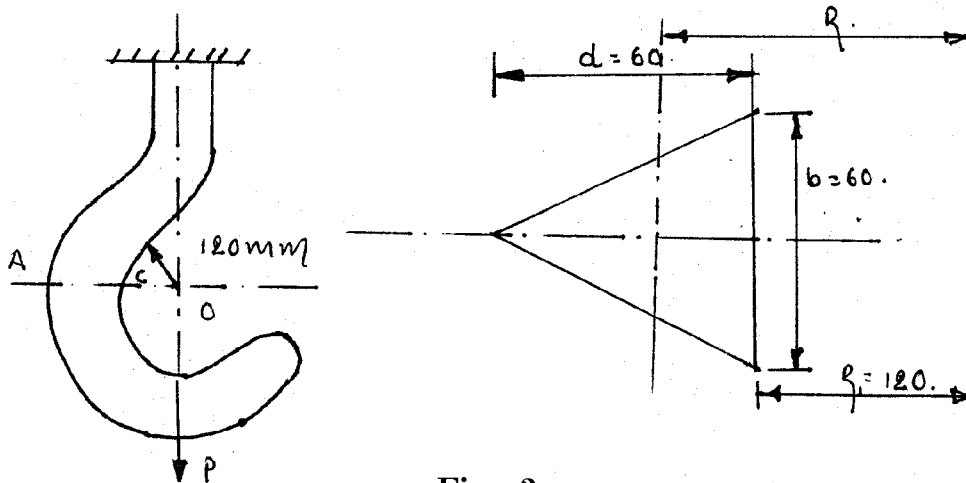

Fig. 3
- (b) Fig. 3 shows a crane hook lifting a load 210 kN. A crane hook has a tri-angular cross-section with base 60 mm and height 60 mm with base towards the center of curvature. The inside edge of the section is at 120 mm. From the center of curvature and the load line is on the center of curvature. 12